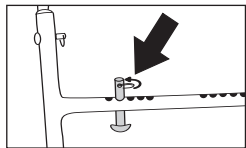

Figure 2D
- I. Remove split ring from clevis pin (Figure 2D).